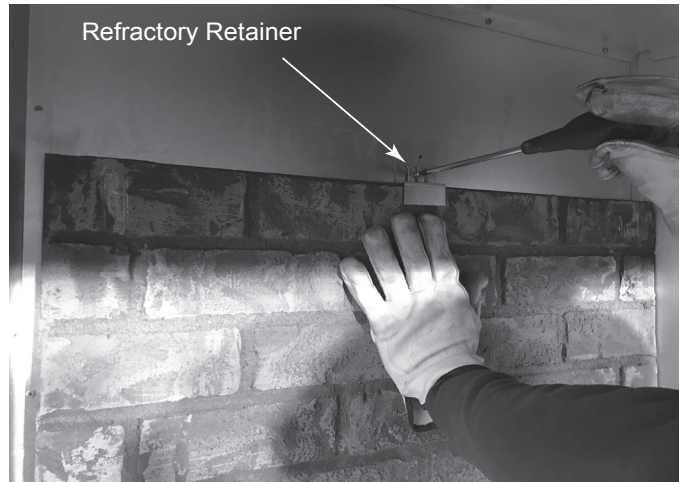

Figure 11.4
- Remove smoke shield (5) screws and set the smoke shield aside.
- Set Back Refractory in place and secure with (1) refractory retainer. See Figure 11.4.